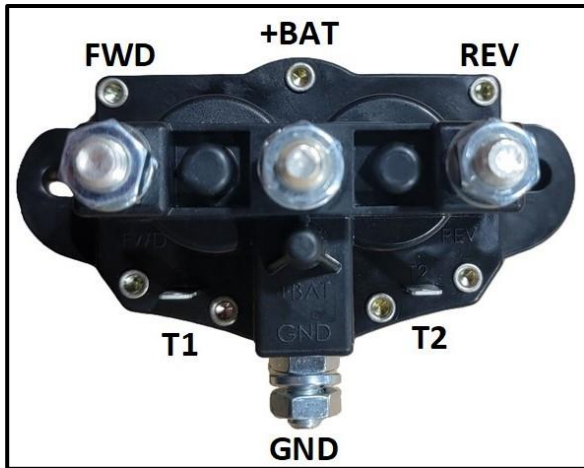

Figure 26 Labeled Contactor
4. Remove one wire at a time, applying a piece of tape with text written on it according to the map [Figure 26], until all the wires have been removed.
9. Reconnect the wires to the contactor as they were prior to removal, according to the map [Figure 26].